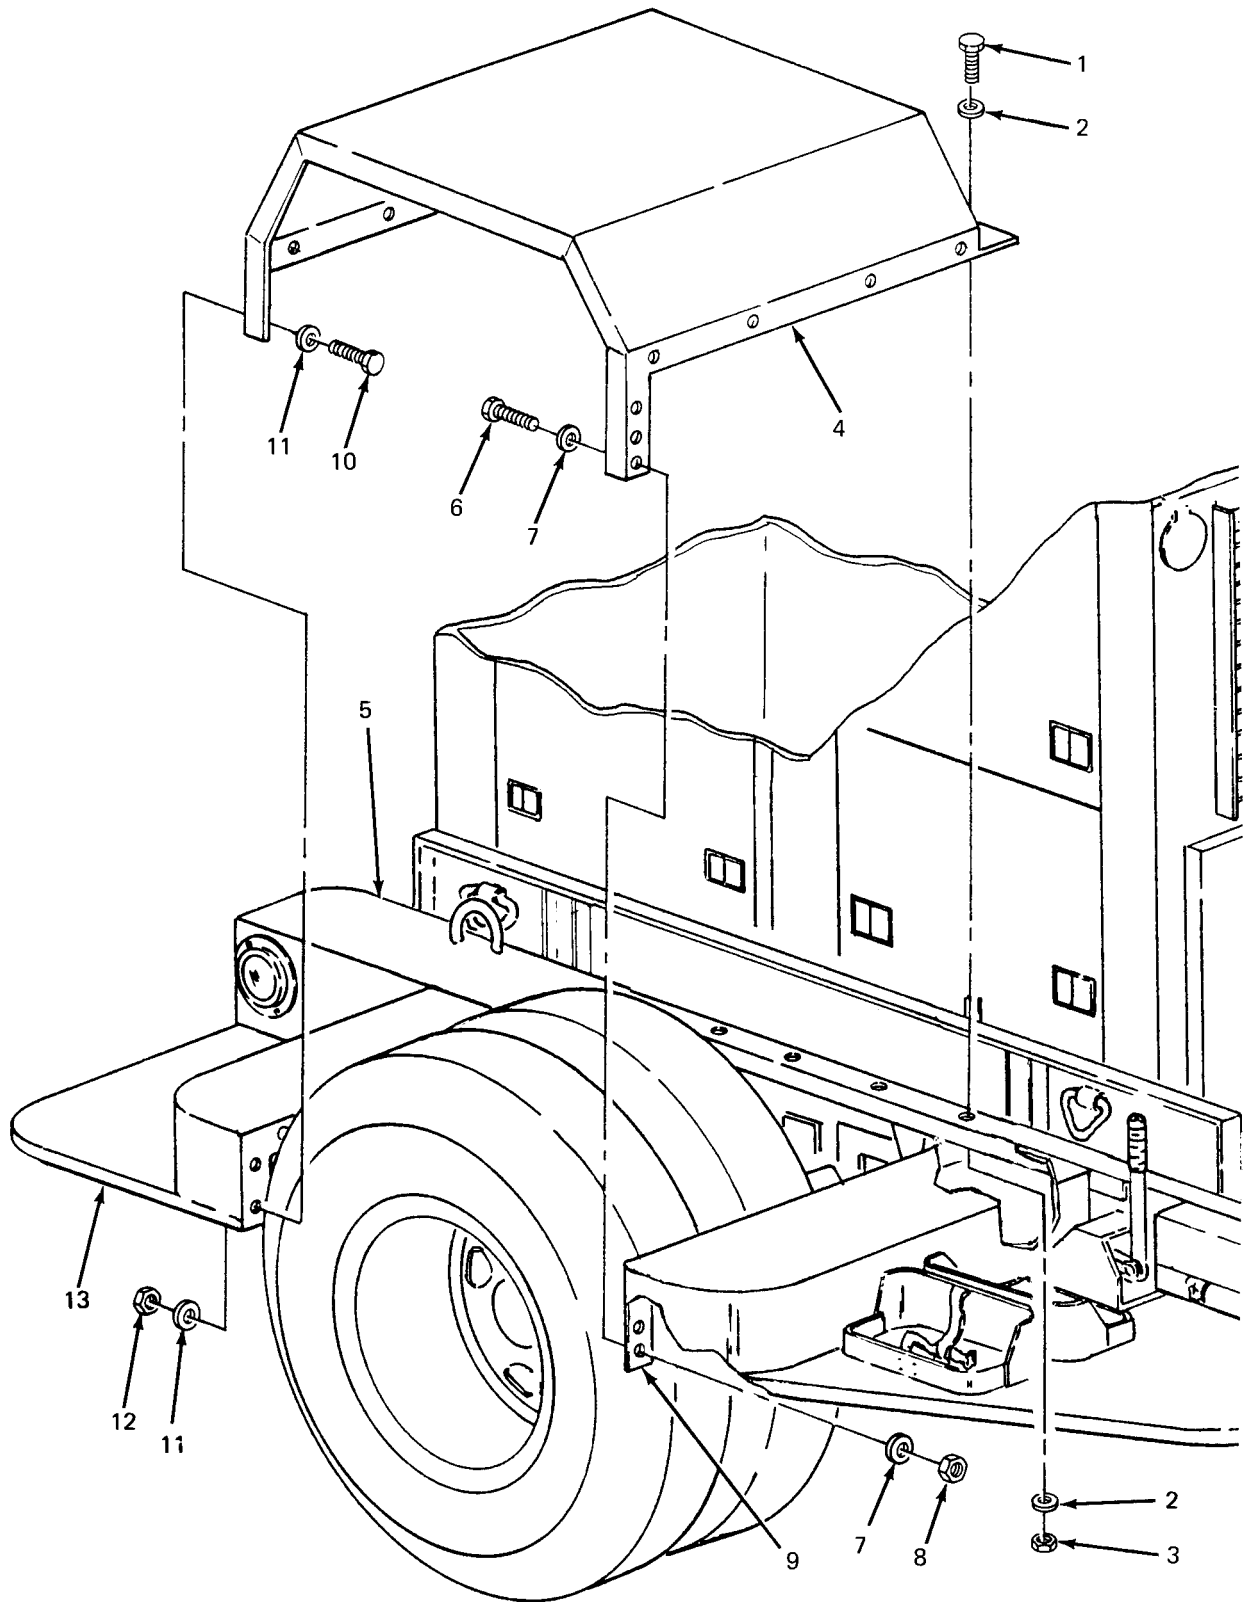

Figure 4-10. Fender Replacement
- (1) Position rear step (11) on trailer frame (6).
- (2) Secure rear step (11) to trailer frame (6) with two screws (8), four flat washers (9) and two nuts (10).
- (3) Secure rear step (11) to fender (15) with five screws (12), ten flat washers (13) and five nuts (14).
- (4) Align two mounting holes in rear step bracket (4) with holes in trailer frame (6) under taillight (7) and insert two screws (1).
- (5) Slide S-hook at chain end of platform anchor (5) onto threaded end of lower screw (1) inside trailer frame (6).
- (6) Install one flat washer (2) and one nut (3) on each screw (1) and tighten.
**4-22. Fender Replacement.** (See figure 4-10.) The trailer assembly fenders are symmetrical, and replacement procedures are the same for each.
- (1) Remove five screws (1, figure 4-10), ten flat washers (2) and five nuts (3) securing fender (4) to trailer frame (5).